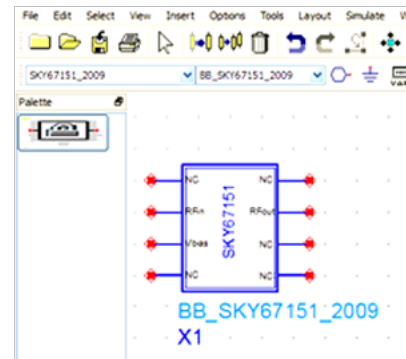

Figure 12. BlackBox Model from Ads Palette
- 7) In the ADS schematic window, we should see a palette with the SKY67151_2009 BlackBox Model which can be used in the schematic with the Netlist Include component, Figure 12.